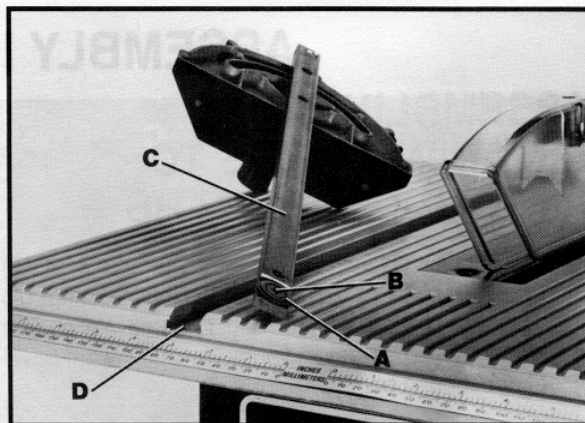
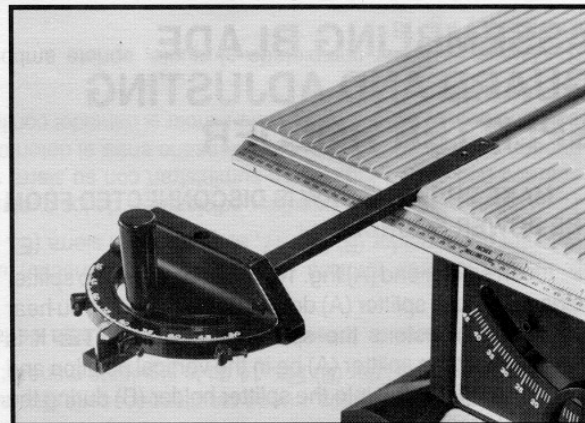

Fig. 18
Fig. 19
1. The miter gage is equipped with a special washer (A) Fig. 18, and a flat head screw (B) which are assembled to the bottom end of the miter gage bar (C). The special washer (A) rides in the T-slotted miter gage slot (D) and prevents the miter gage from falling when it is extended out beyond the front of the saw table, as shown in Fig. 19.